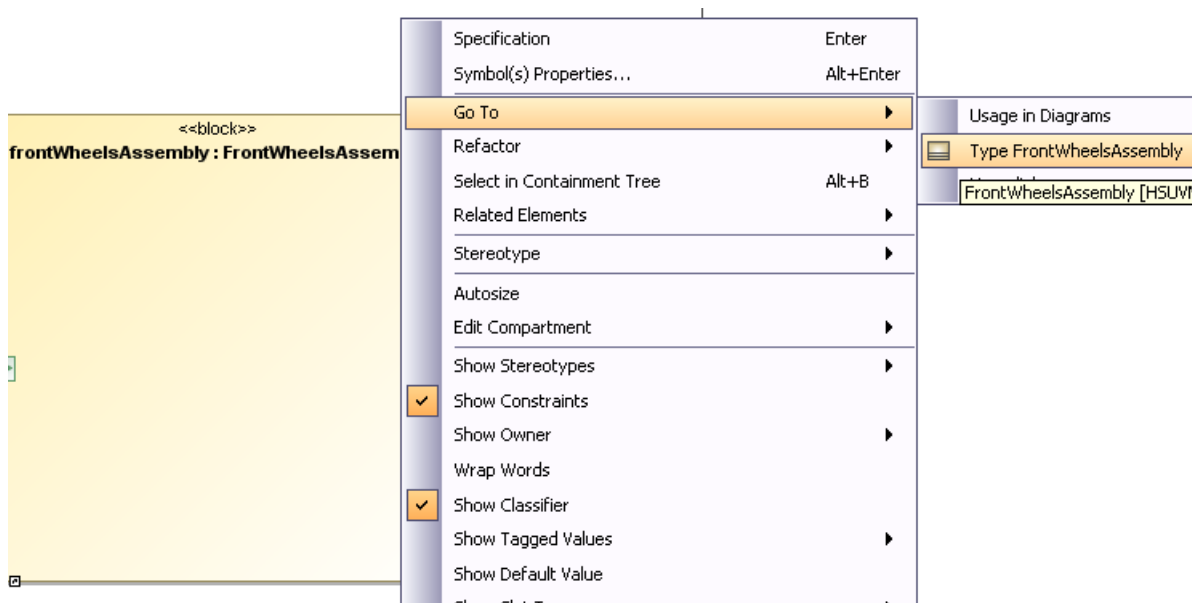

Figure 101 -- Go To > Type Function
- You can check how the automatically-created new Block looks like by right-clicking the part and select **Go To > Type <name>** to select the Block in the browser (Figure 101).